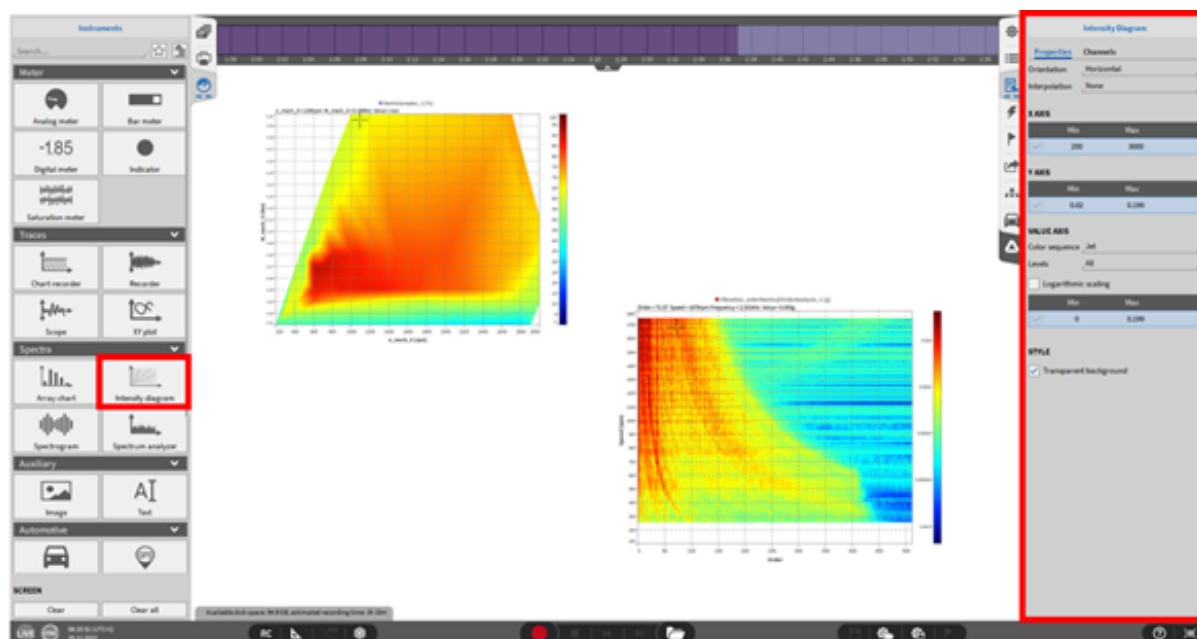

Fig. 8.103: Intensity Diagram instrument - overview
- Select levels to have a more defined grading in the matrix. Select the number of levels which should be defined with a black border. The matrix on the left in Fig. 8.103 shows no grading and the matrix on the right has a 10-level grading.